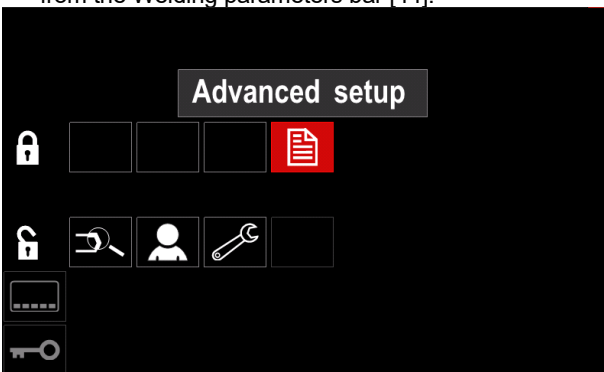

Figure 45.
- Press the Right Knob [36]. The icon of chosen parameter will disappear from the lower part of the display (Figure 45.). Also this parameter disappear from the Welding parameters bar [44].